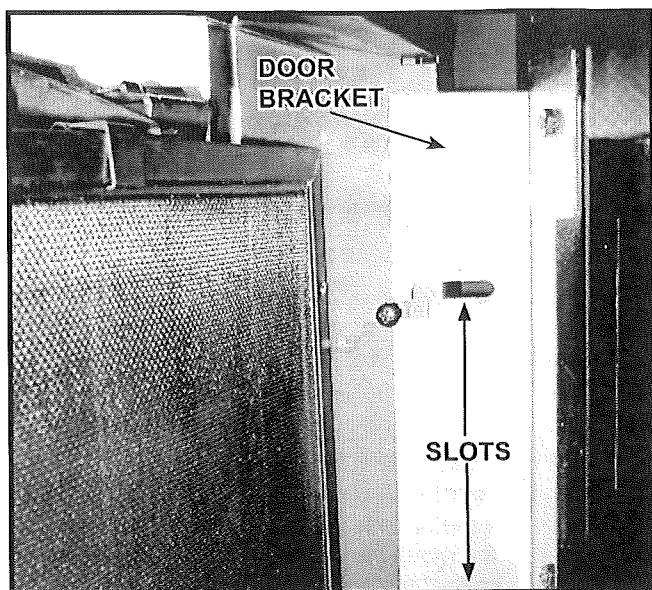

Figure 4. Location of Rivnuts Right and Left Side of Fireplace Opening.
6. Install the door into the fireplace opening. Note the orientation of the door brackets. The slots in the bracket will only line up with the rivnuts in the fireplace if the door is installed correctly. See Figure 4.